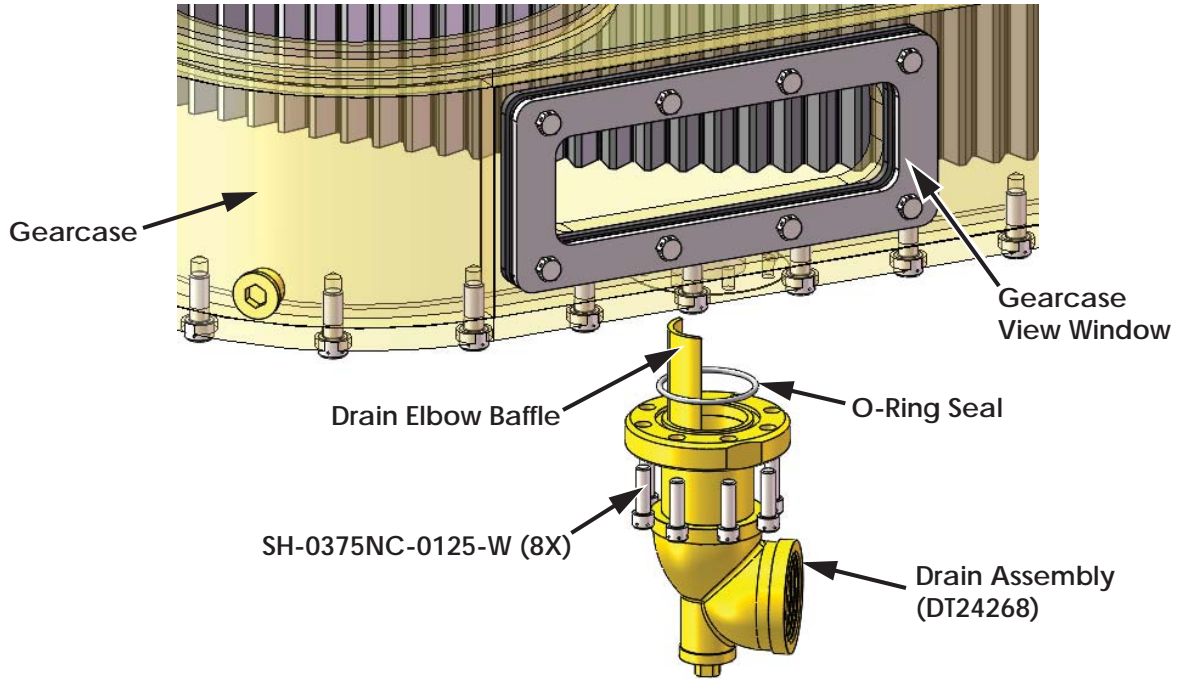

Figure 1: Drain Elbow Installation
4. Install new O-ring, drain elbow, and eight (8) SH-0375NC-0125-W bolts by hand as shown in Figure 1 on page 2.